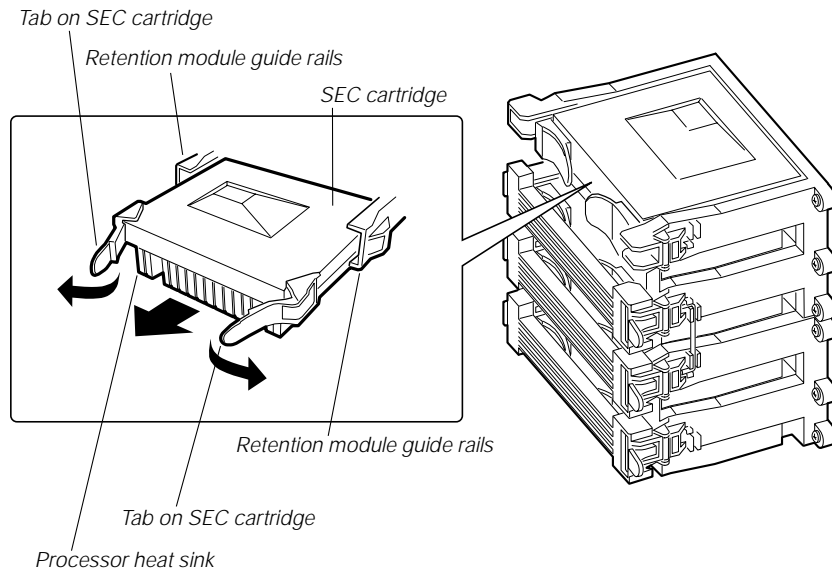

Figure 6: Removing a Processor
- Pull the two tabs attached to the single edge contact (SEC) cartridge (visible after you remove the bracket—C in Figure 6) straight away from the system board. As you do, the cartridge disengages from the connector on the system board.